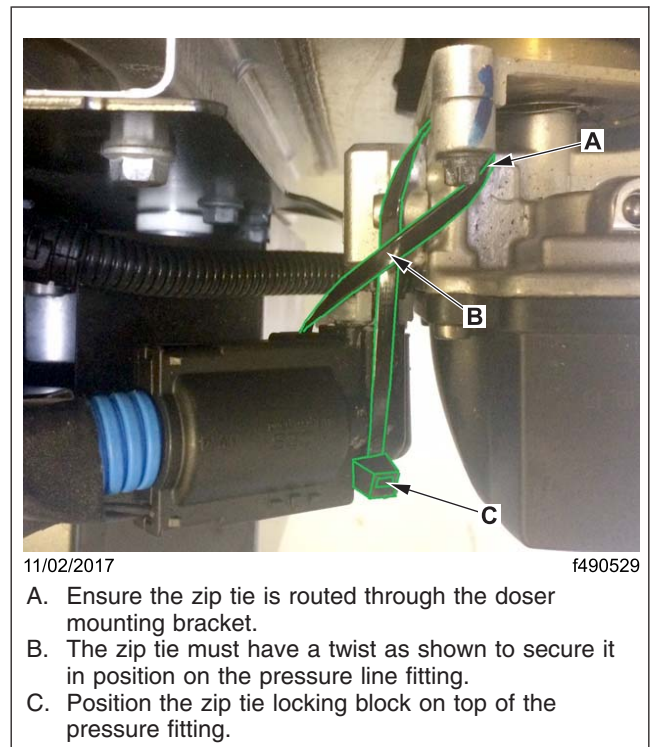

Fig. 2, Installing a Zip Tie on the DEF Pressure Line and Doser
3. Install a zip tie through the doser mounting bracket and around the DEF pressure line as shown in Fig. 2.